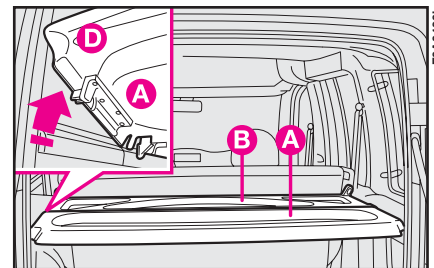

fig. 124
The shelf is split into two parts **fig. 124**. Proceed as follows to remove the entire shelf:
- 2) Lift part **A-fig. 124** of the shelf and place it on part **B**.
To refit the shelf, refit central catches **D**-fig. 124 and tip first part **B** and then part **A**, make sure shelves are properly secured.